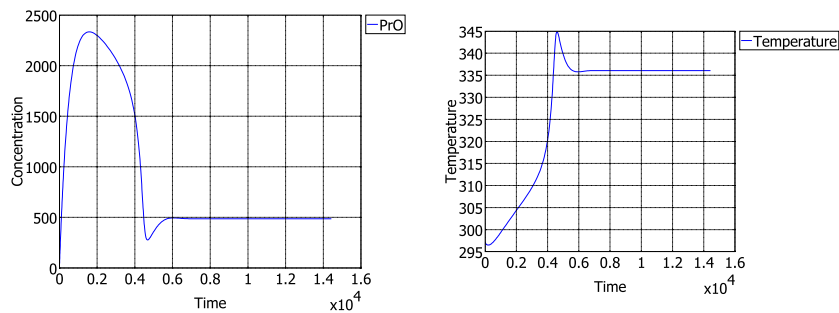

Figure 4-90: Concentrations of reactant PrO (mol/m^3) after 4 hours of operation (left) and reactor temperature (K) after 4 hours of operation (right).
Figure 4-90 shows the concentration of PrO (mol/m^3) and the reactor temperature (K) as a function of reaction time.